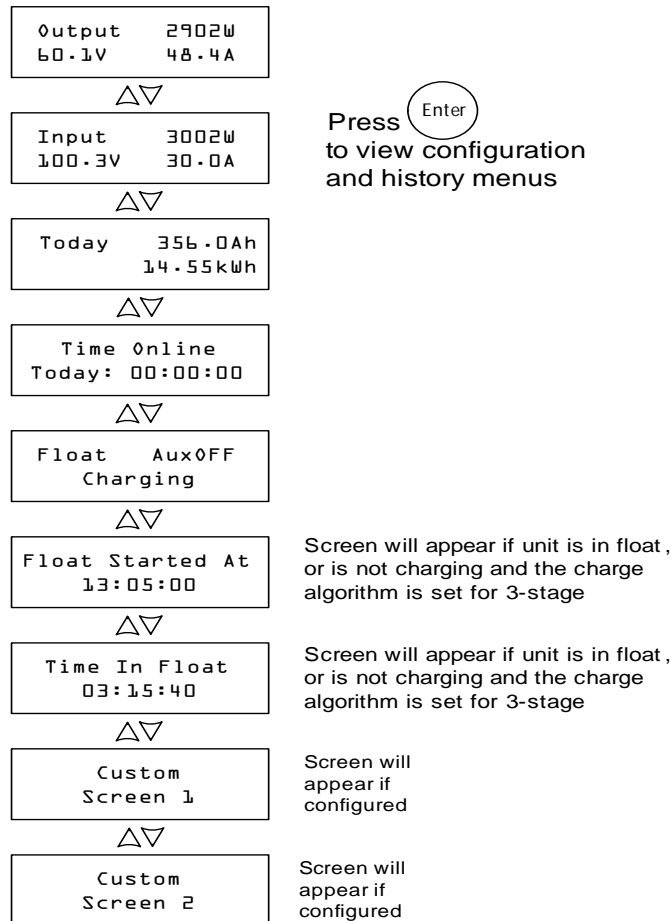

Figure 4-1 Operating Screens
- When in Charge Control mode the LCD shows the output power, voltage and current (and additional information as shown in Figure 4-1 on page 4–2).
The front panel display shows different message screens during startup and normal operations. Figure 4-1 shows the sequence in which the Startup and Operating screens are displayed or can be viewed.